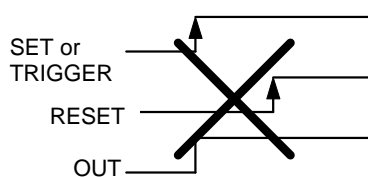

Figure 8
- Do not set the RESET terminal high while SET or TRIGGER terminal is at high level. Or, the S-8081B will enter acceleration test mode. (see Figure 8)